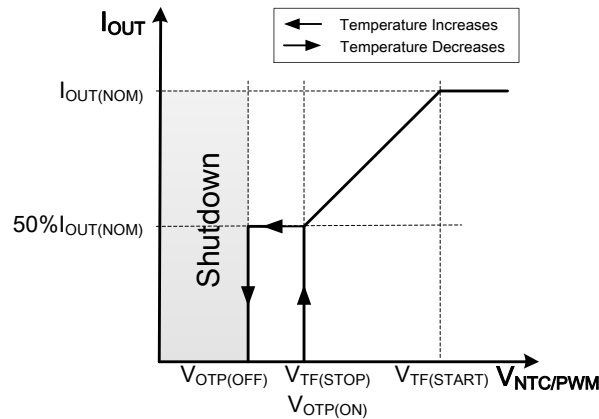

Figure 3. Output Current Reduction vs NTC/PWM Pin Voltage
Connect a NTC between the NTC/PWM pin and ground to detect an overtemperature condition. In response to a high temperature (detected if VNTC/PWM drops below VTF(START)), the circuit gradually reduces the LED current down 50% of its nominal value when VNTC/PWM reaches VTF(STOP), in accordance with the characteristic of Figure 3. If this thermal foldback cannot prevent the temperature from rising (testified by VNTC/PWM dropping below VOTP), the circuit latches off or enters the auto-recovery mode and cannot be reoperated until VNTC/PWM exceeds VOTP(ON) to provide some temperature hysteresis (around +10°C typically).